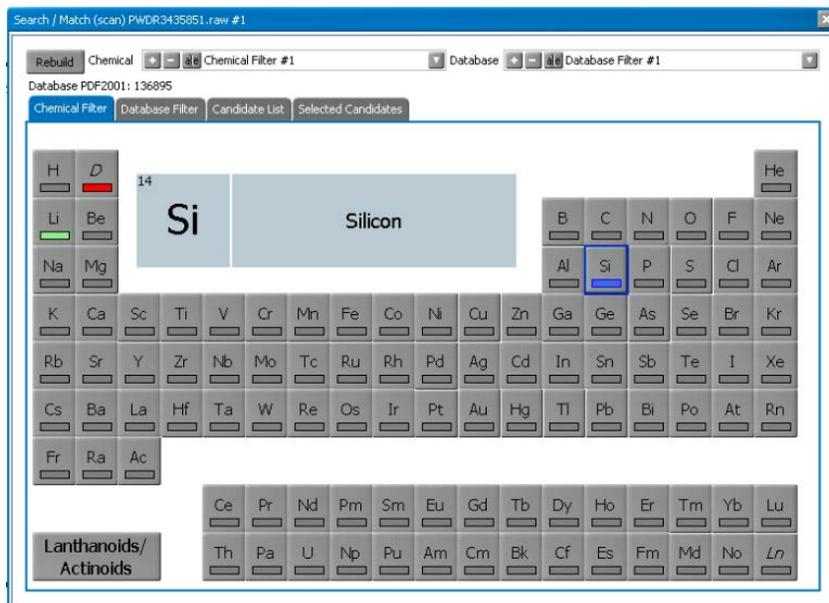

Figure 6. Chemical Filter Tab.
2. Select desired search parameters (see suggestions below; **Figures 6, 7, 8**).
A chemical filter can be set for any element in the periodic table (**Figure 6**).